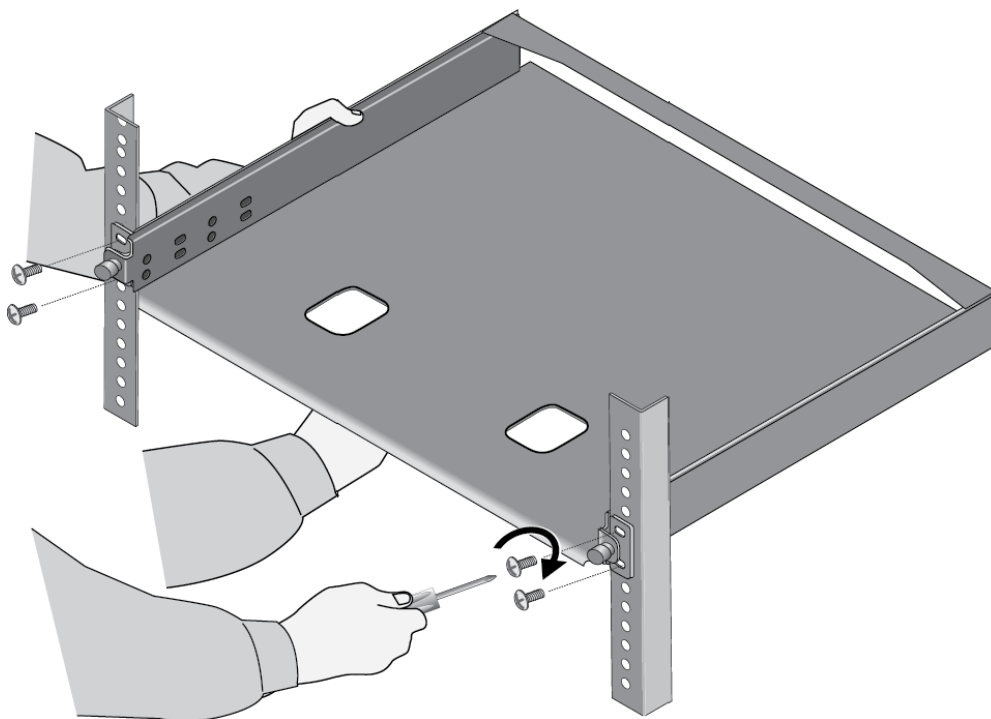

Figure 25. Installing the AT-RKMT-J15 Bracket in the Equipment Rack
1. Have another person hold the AT-RKMT-J15 Bracket at the desired location in the equipment rack while you secure it using four standard equipment rack screws (not provided). Refer to Figure 25.